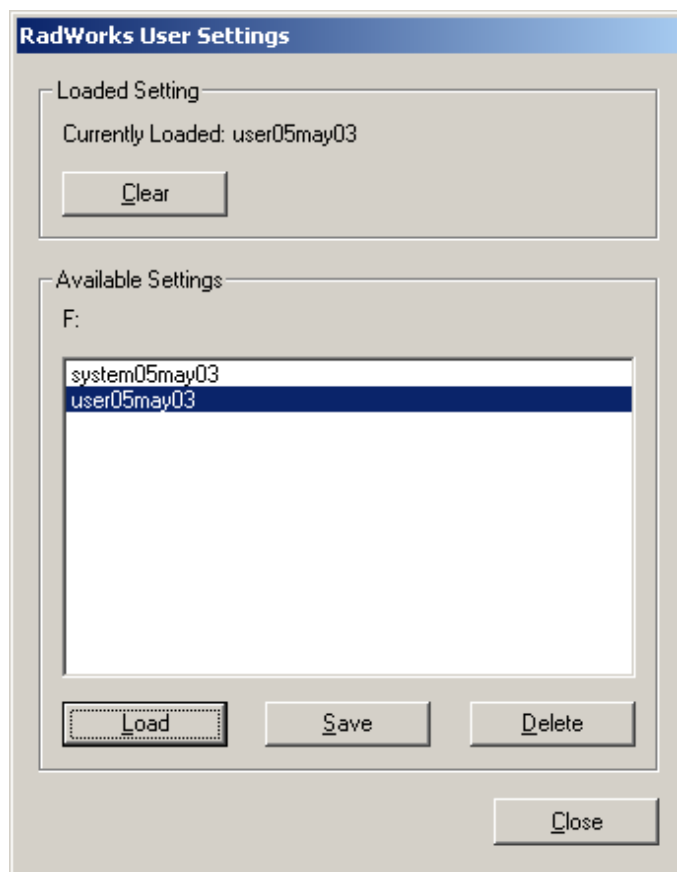

Figure 10-9 Restore RadWorks User Settings
- 2.) Select the user settings from the Available Settings List (see Figure 10-9). Make sure that you don't select System settings.